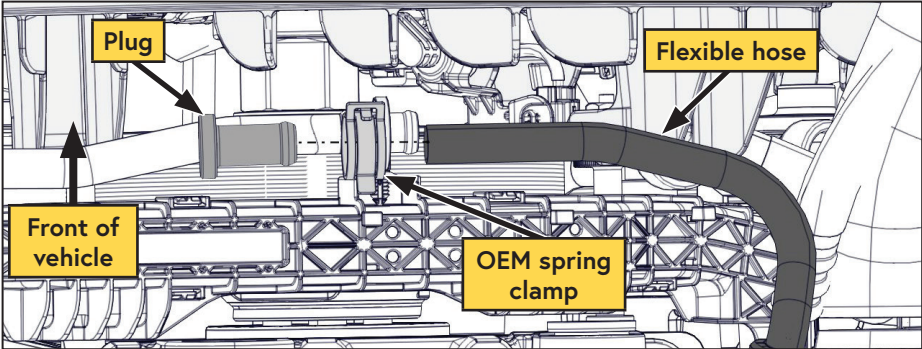

Figure 36 — Plug the flexible hose
- Insert the supplied aluminum plug into the flexible hose section and secure using the OEM spring clamp (Figure 36).